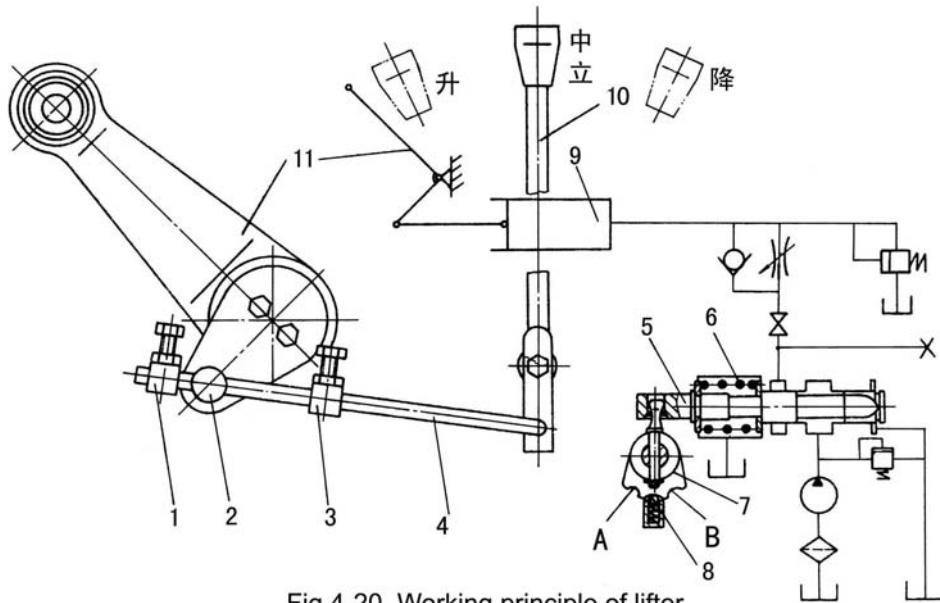

Fig.4-20 Working principle of lifter
Fig.4-20 is a working principle diagram of position adjusting of the lifter (with simple direction exchange valve and high adjustable performance). While pulling the operation handle (10) to lowering position, position locating steel ball (8) falls into lowering the position locating slot B on position locating block (7), meanwhile main control valve (5) moves right to the lower position. The oil in the cylinder flows back into oil tank through main control valve (5), and the implement begins to fall down. With the implement falling gradually, stop pin (2) fixed on the stop plate of the lift shaft and the lift shaft together rotate around the lift shaft counterclockwise, and slip along return push rod (4); after they slip to contact the lowering position limiting stop block (3) fixed on the return push rod, they bring the return push rod (4) move right together; at the same time turn the operation handle until position locating steel ball (8) is pushed out of the position locating slot B. In such case, under the action of
While raising the implement, push operation handle (10) to lifting position and then position locating steel ball falls into position locating slot A (Fig.4-20), main control valve (5) moves left to lifting position. The implement begins to rise; with the implement rising gradually, meanwhile, return stop pin (2) rotates around the lift shaft clockwise; when the stop pin slips to contact lifting return stop block (1), drive return push rod (4) to move left, and at the same time rotates operation handle (10) until pull the locating steel ball (8) out of its locating slot. In such case, under the action of the tension of return spring (6), operation handle (10) and main control valve (5) jump to neutral position at the same time. And the oil pump stops supplying oil to the cylinder, the implement stops rising. The raising height of the implement depends on the fixed position of the lift return stop block (1) on the return push